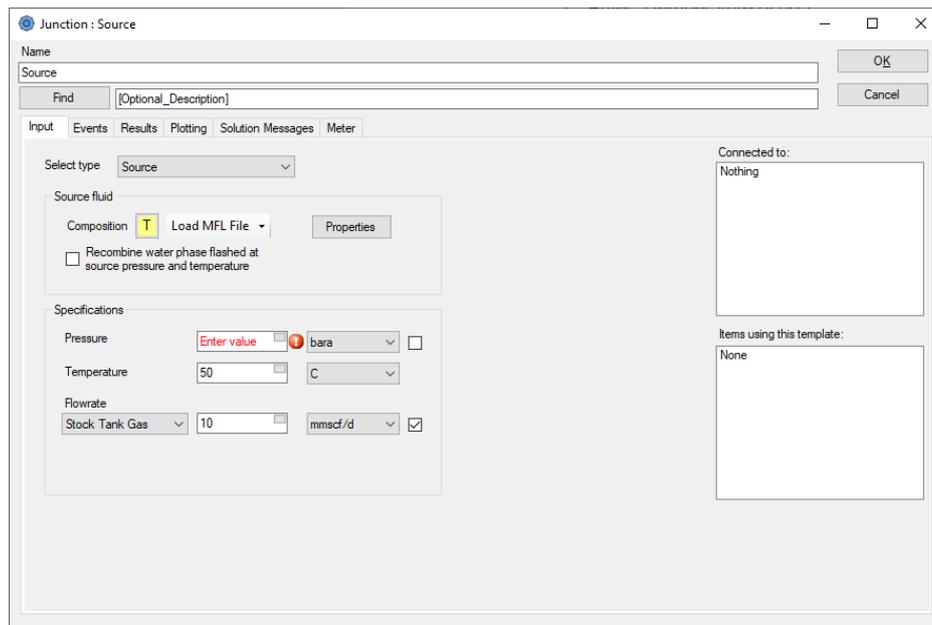

Figure 17: Complete source window
7. The source window should look like Figure 17. Click **OK** to close the window and save the changes.